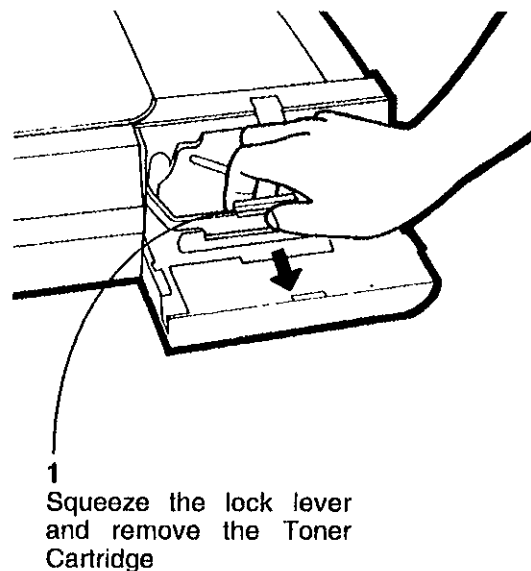

Figure 2. Removing the Toner Cartridge
- 2 (Figure 2) Squeeze the lock lever and handle to release the Toner Cartridge, and remove the cartridge from the copier.